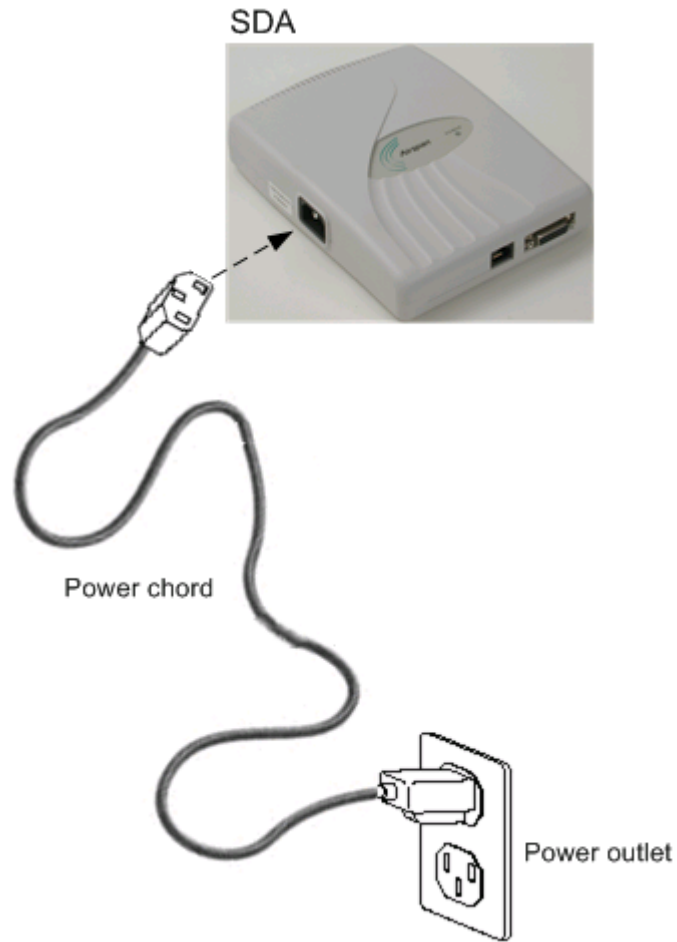

Figure 9-16: SDA power cable connections
1. Plug the power plug female, at the end of the AC power chord, into the power plug male located on the left of the SDA chassis (see Figure 9-16).
2. Plug the power plug male, at the other end of the AC power chord, into the wall power outlet (110-240 VAC). (See Figure 9-16.)